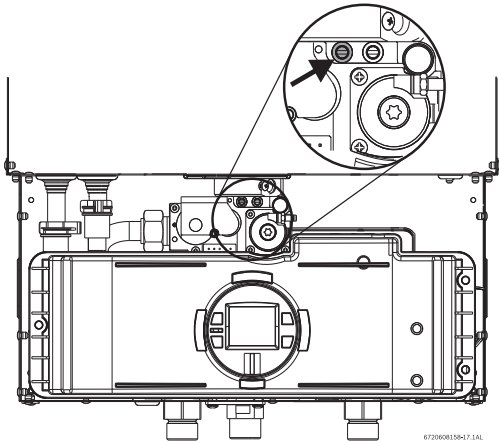

Fig. 36 Gas pressure test port (left tapping)
- ▶ Remove front cover and locate inlet gas pressure measuring point (see Fig. 36).